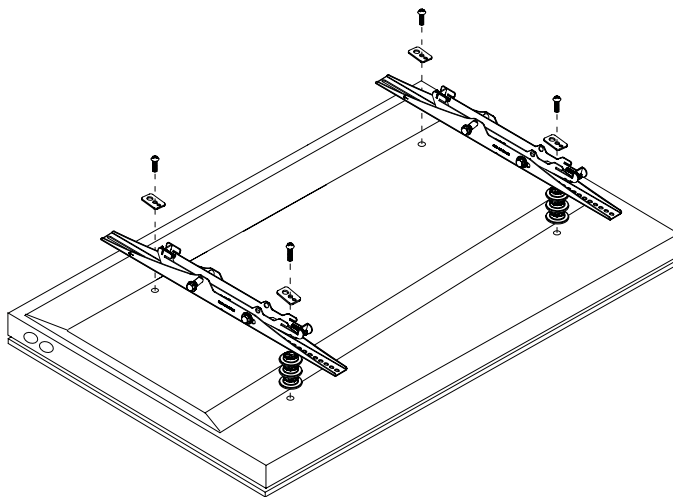

Figure 30. Attaching the Mounting Bracket to the Flat-Panel
4. Secure each mounting bracket to your flat-panel by inserting a minimum of two screws per bracket (Figure 30).